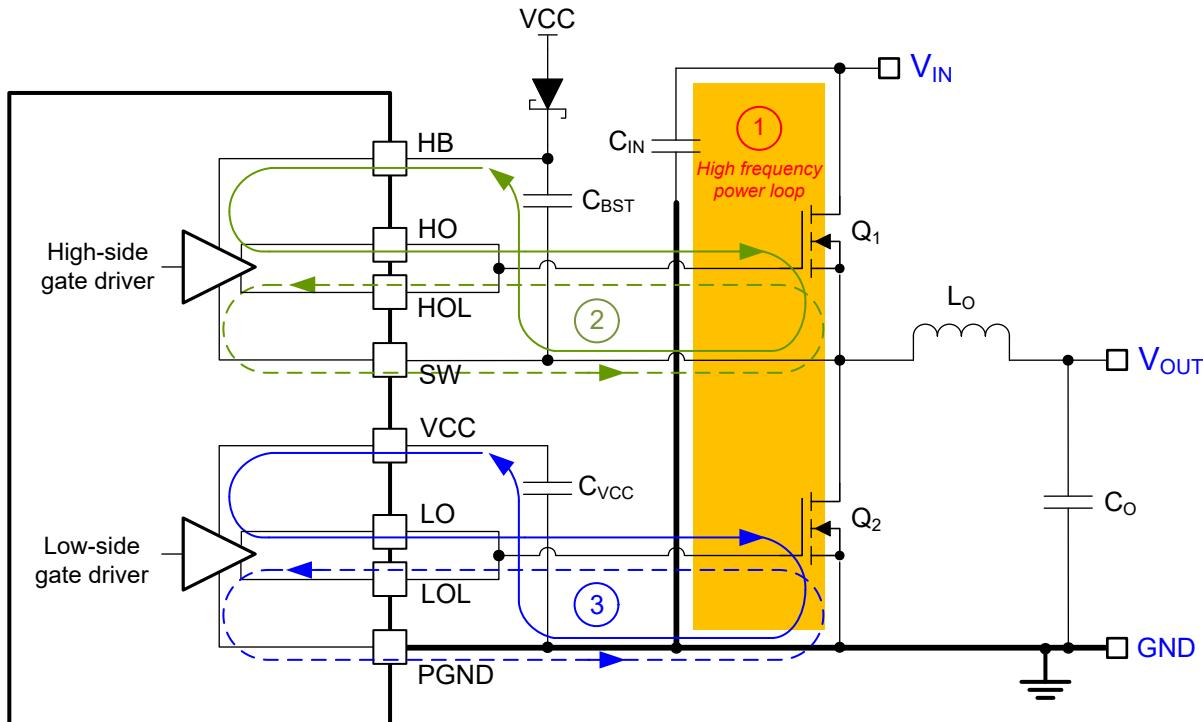

Figure 12-1. DC/DC Regulator Ground System With Power Stage and Gate Drive Circuit Switching Loops
Proper PCB design and layout is important in a high-current, fast-switching circuits (with high current and voltage slew rates) to achieve a robust and reliable design. As expected, certain issues must be considered before designing a PCB layout using the LM5143. The high-frequency power loop of a buck regulator power stage is denoted by loop 1 in the shaded area of Figure 12-1. The topological architecture of a buck regulator means that particularly high di/dt current flows in the components of loop 1, and it becomes mandatory to reduce the parasitic inductance of this loop by minimizing its effective loop area. Also important are the gate drive loops of the low-side and high-side MOSFETs, denoted by 2 and 3, respectively, in Figure 12-1.
- Loop 1: The most important loop area to minimize is the path from the input capacitor or capacitors through the high-side and low-side MOSFETs, and back to the capacitor or capacitors through the ground connection. Connect the input capacitor or capacitors negative terminal close to the source of the low-side MOSFET (at ground). Similarly, connect the input capacitor or capacitors positive terminal close to the drain of the high-side MOSFET (at VIN). Refer to loop 1 in Figure 12-1.
- The SW pin connects to the switch node of the power conversion stage and acts as the return path for the high-side gate driver. The parasitic inductance inherent to loop 1 in Figure 12-1 and the output capacitance (C_{oss}) of both power MOSFETs form a resonant circuit that induces high frequency (greater than 50 MHz) ringing at the SW node. The voltage peak of this ringing, if not controlled, can be significantly higher than the input voltage. Make sure that the peak ringing amplitude does not exceed the absolute maximum rating limit for the SW pin. In many cases, a series resistor and capacitor snubber network connected from the SW node to GND damps the ringing and decreases the peak amplitude. Provide provisions for snubber network components in the PCB layout. If testing reveals that the ringing amplitude at the SW pin is excessive, then include snubber components as needed.
- Loop 2: high-side MOSFET, Q₁. During the high-side MOSFET turn-on, high current flows from the bootstrap (boot) capacitor through the gate driver and high-side MOSFET, and back to the negative terminal of the boot capacitor through the SW connection. Conversely, to turn off the high-side MOSFET, high current flows from the gate of the high-side MOSFET through the gate driver and SW, and back to the source of the high-side MOSFET through the SW trace. Refer to loop 2 of Figure 12-1.
- Loop 3: low-side MOSFET, Q₂. During the low-side MOSFET turn-on, high current flows from the VCC decoupling capacitor through the gate driver and low-side MOSFET, and back to the negative terminal of the capacitor through ground. Conversely, to turn off the low-side MOSFET, high current flows from the gate of the low-side MOSFET through the gate driver and GND, and back to the source of the low-side MOSFET through ground. Refer to loop 3 of Figure 12-1.